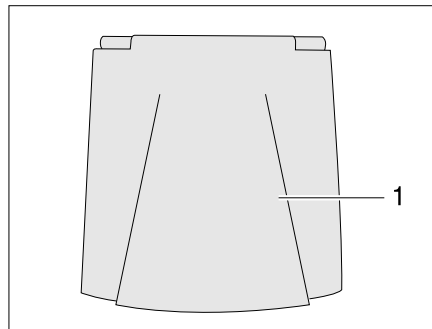

Fig. 37 Cover flap for the fuel filler neck
- Open the cover flap (Fig. 37,1).
- Insert the key in the locking cylinder (Fig. 37,3) and turn it in an anticlockwise direction.